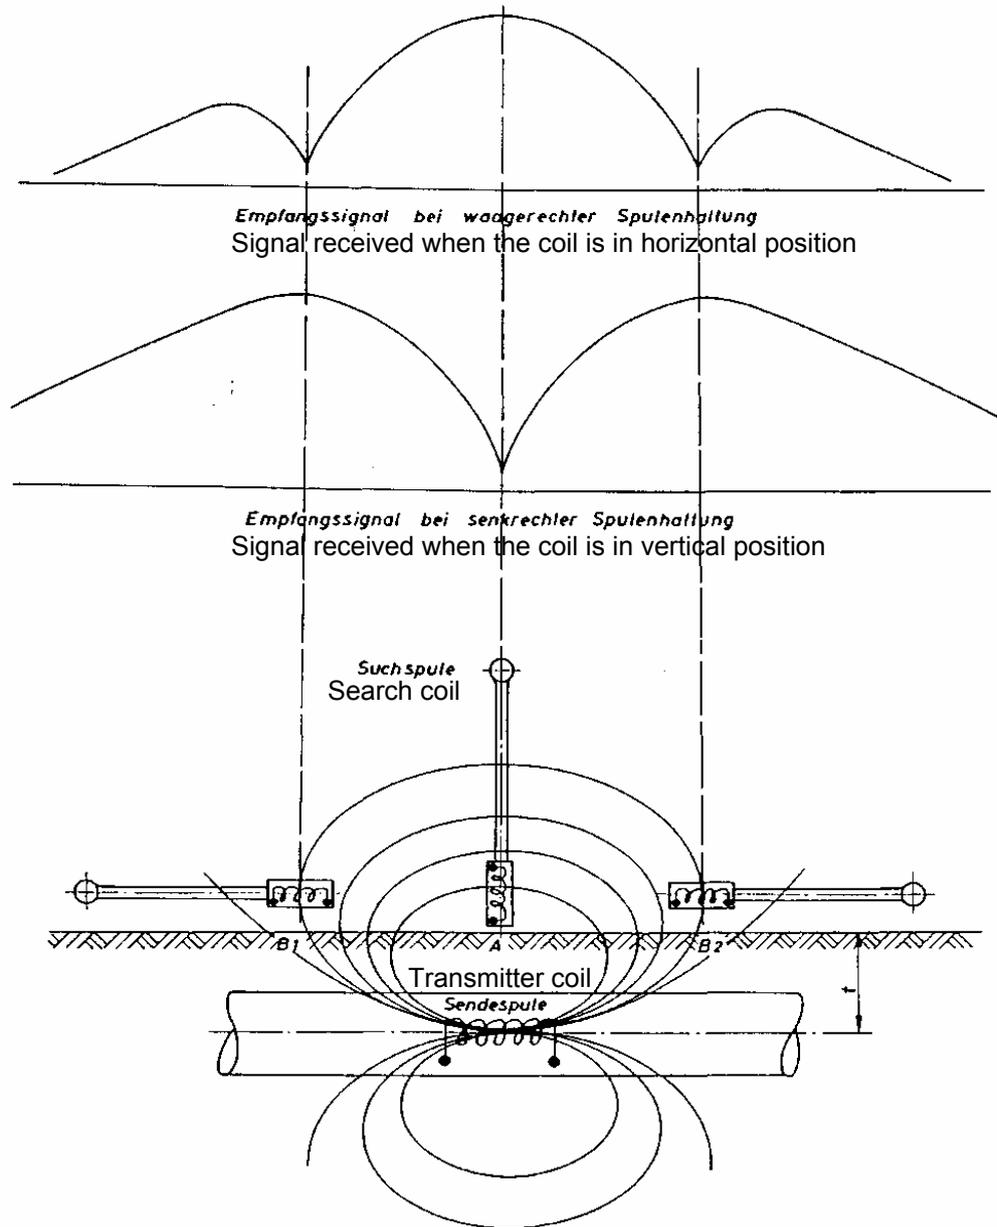

Fig. 3: Determination of location and depth based on the field-line trend:
A lost pipeline pig can be detected by following the pipe route. Guide the **detector coil vertically** along the pipe, as smoothly and calm as possible. The pulse signal becomes audible in a distance of approx. 6 m (depending on the relevant depth!). The intensity of the signal is increasing when the lost pipeline pig is getting closer. After passing a peak, it drops to a minimum (zero) when it is exactly above the pig. If the operator continues walking, another maximum is indicated again before the signal finally disappears (see fig. 3).
**Rough formula for calculating the transmitter depth** (see fig. 3):
As indicated in fig. 3, there is only one position (A) at which the field lines and the coil axis lines meet each other perpendicularly, provided that the coil is held vertically. Position A thus identifies the **location** of the transmitter.